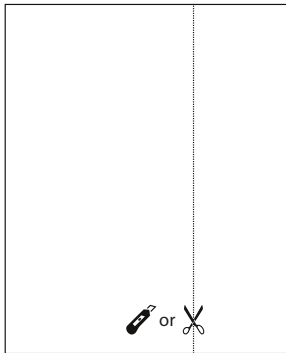

Fig. 21
Step 2. Remark a line on the provide R1 insulation panel according to a length $1/8"$ (3 mm) less than the measured width in step 1, then cut the R1 insulation panel along the line (Fig. 21).